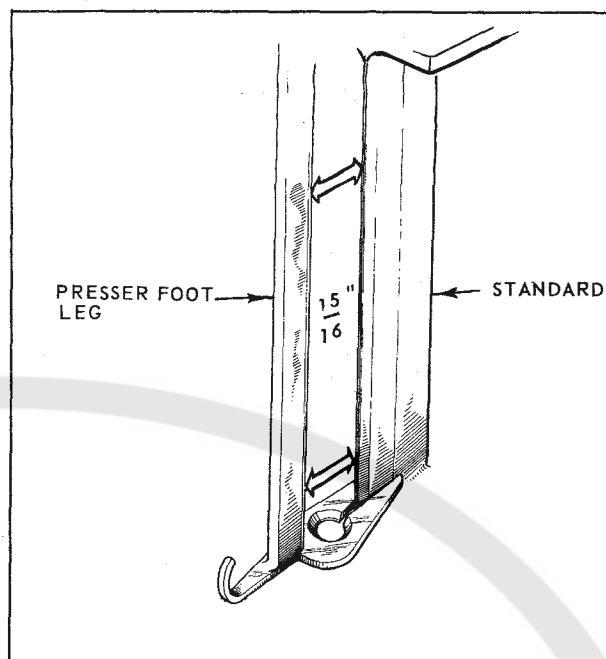

Figure 7.
To obtain a proper and uniform bevel on the machine, it is necessary that the presser foot leg (29) be at the proper distance from the standard. With the presser foot leg all the way down, the distance from the back of the leg to the standard should be equal at both the top of the standard and at the bottom of the standard. For the Model E machine, this distance should be approximately $\frac{15}{16}$ " , See Figure 7.